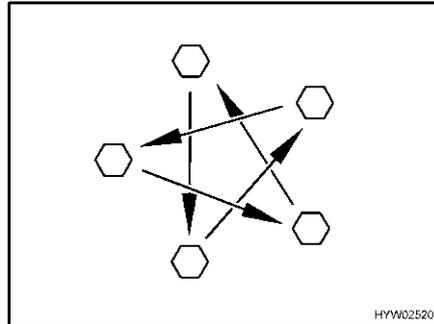

Fig. 88 Tighten the wheel nuts or wheel bolts cross-wise
- Check regularly that the wheel nuts or wheel bolts are firmly seated. Re-tighten the wheel nuts or wheel bolts of a changed wheel cross-wise (Fig. 88) after 50 km (30 miles).